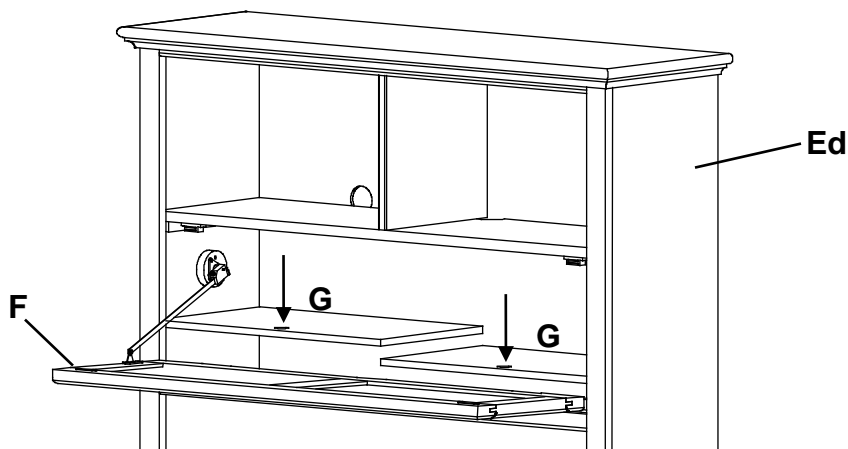

Fig. 7
- Unwrap the False Bottoms (G) and place them on top of the rails in the Headboard Assembly (Ed). Make sure the finger holes face forward as shown in Figure 7. After you have placed your electronics inside the cubbies, use the Wire Clips (J) on the underside of the cubbies to secure the wires. Close the door tightly making sure the magnetic catches and plates securely touch.